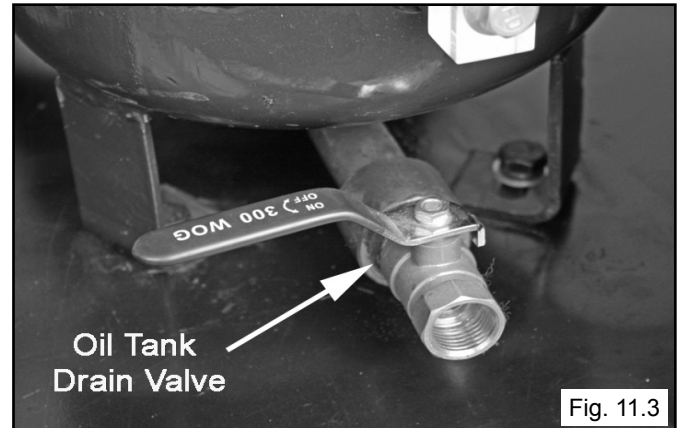

Fig. 11.3
1. Open the oil drain valve slightly and drain off any water from the bottom of the oil Tank. Drain fluid until water stops flowing and only oil flows. (See Fig 11.3)